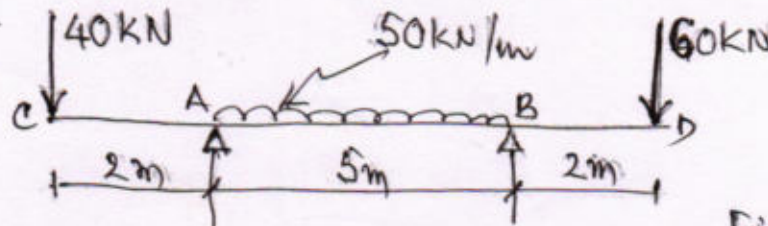

Fig 4(b)
b) Draw SFD and BMD for the beam loaded as shown in fig 4(b). Indicate the point of contraflexure if any. (09 Marks)